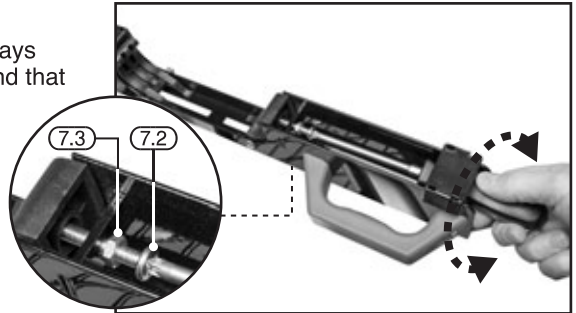

FIG.9
### 8.3 MOUNTING A MITRE SAW – FIGS.9 – 16
- Before fitting the mounting brackets (7) to a mitre saw, firstly determine how easily the mounting brackets can be seated on the mitre saw frame.
- Depending on the adjustment required, turn the screw clockwise to tighten the clamping tension, or anti-clockwise, which will loosen the clamping tension (Fig.9).